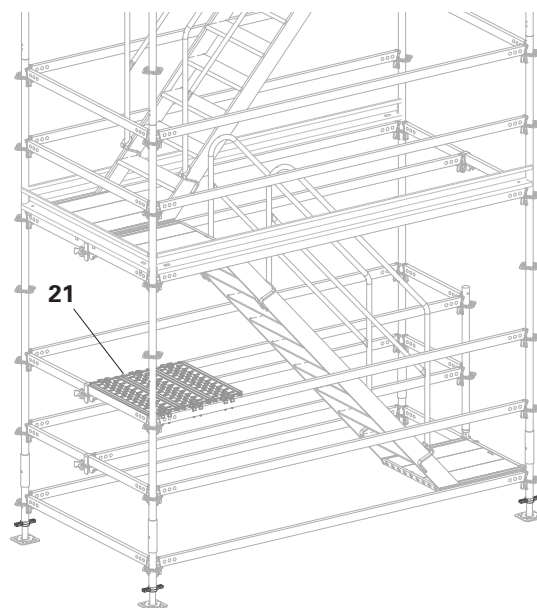

Fig. B5.06
3. PERI recommend placing the temporary Steel Decks UDG 25 x 75 (**21**) at the base lift during use of the Stair Tower. (Fig. B5.06)